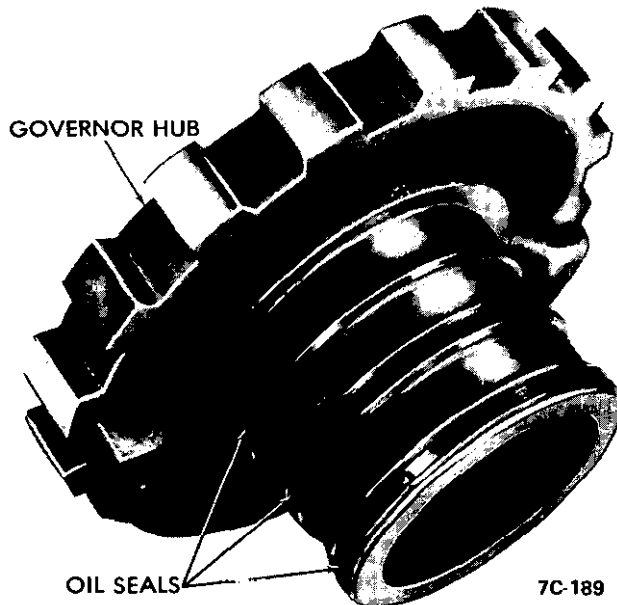

Figure 7C-189
1. Inspect the three oil seal rings. See Figure 7C-189.
2. Remove governor hub oil screen. Inspect screen and clean with solvent and air dry. Replace if necessary. See Figure 7C-191.